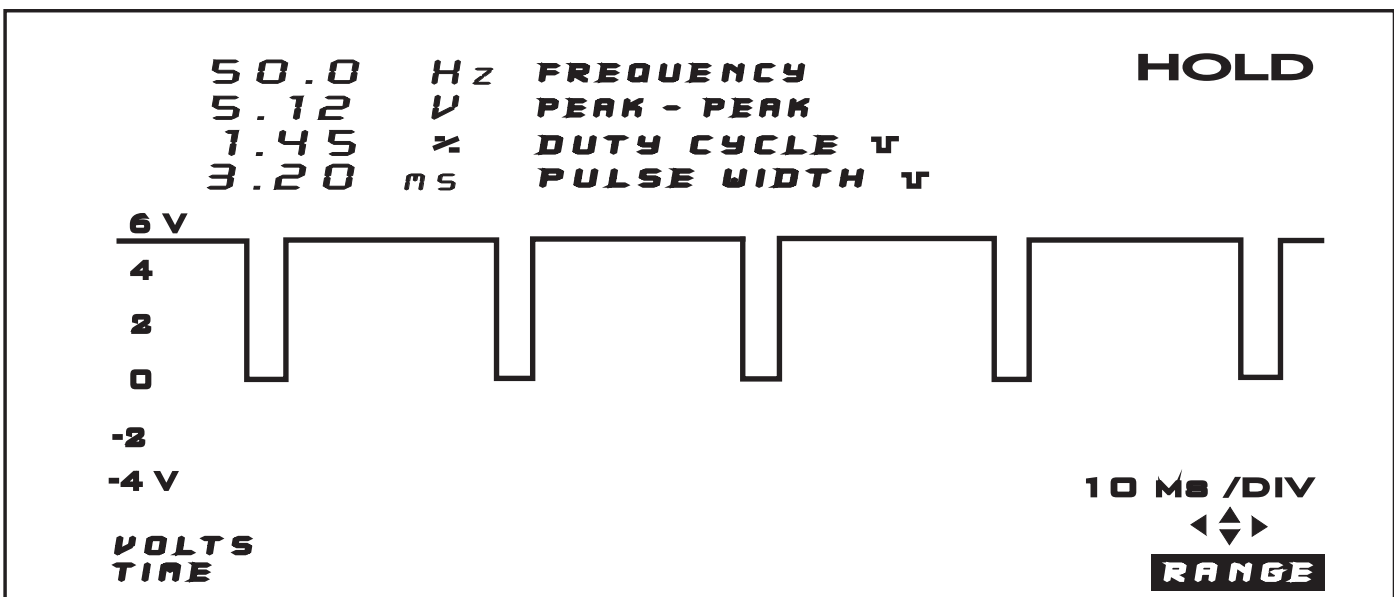

Figure 39
- When this sensor is checked with a scope, it will be a digital square wave that will be displayed, (Refer to Figure 39). The Crank Sensor can be found in the front timing case cover in line with the crankshaft sprocket.